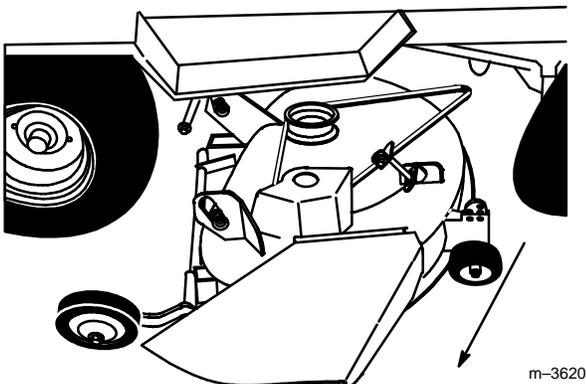

Figure 14
- Slide deck right, off rear lift arms (Fig. 14).
8. Turn the front wheels fully to the left and raise attachment lift lever all the way to the latched position; refer to tractor Operator's Manual. Slide the mower out from under the chassis to the the right side (Fig. 14)